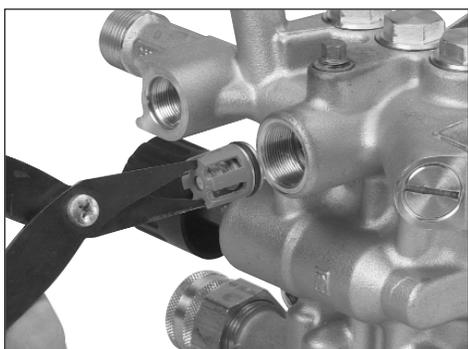

figure 36
2. Remove the non-return check valve with with special valve pliers or needle nose pliers. (figure 36)